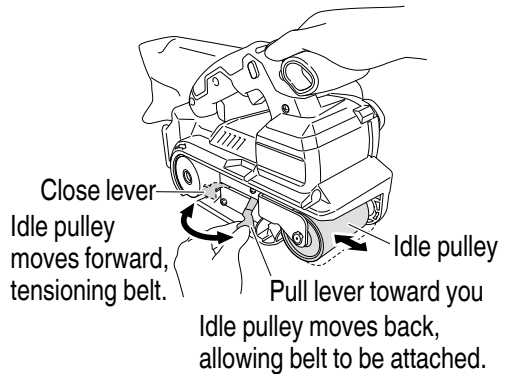

Fig. 8
- (1) Pull lever with finger, idle pulley will then move backward. (Fig. 8)